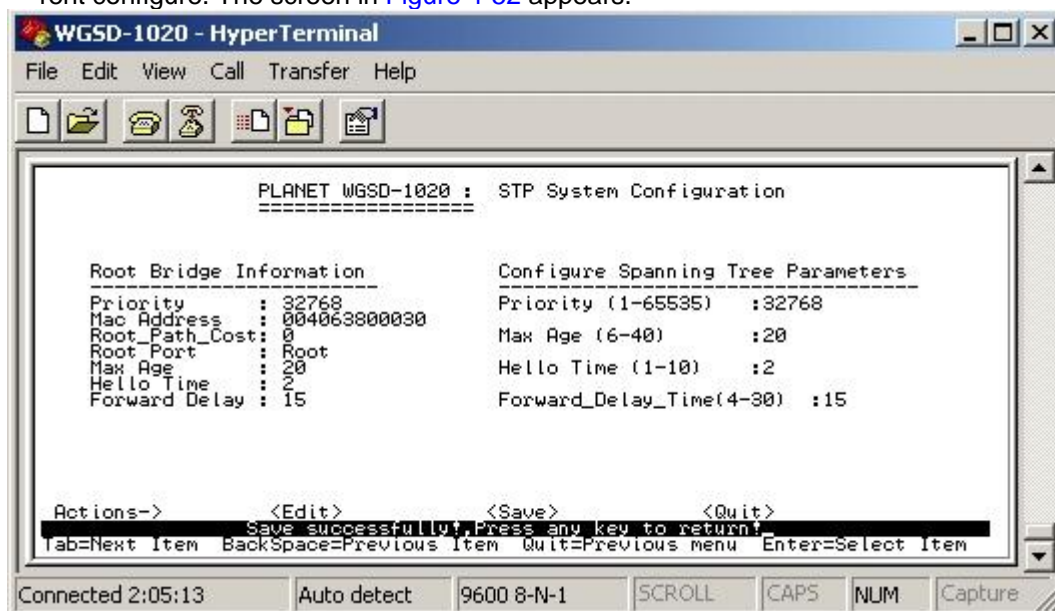

Figure 4-52 STP system configuration save successfully screen
2. After modify completed, press” **Ctrl-A** ” to “ **Action menu** ” and choose “ **save** ” to save the current configure. The screen in Figure 4-52 appears.